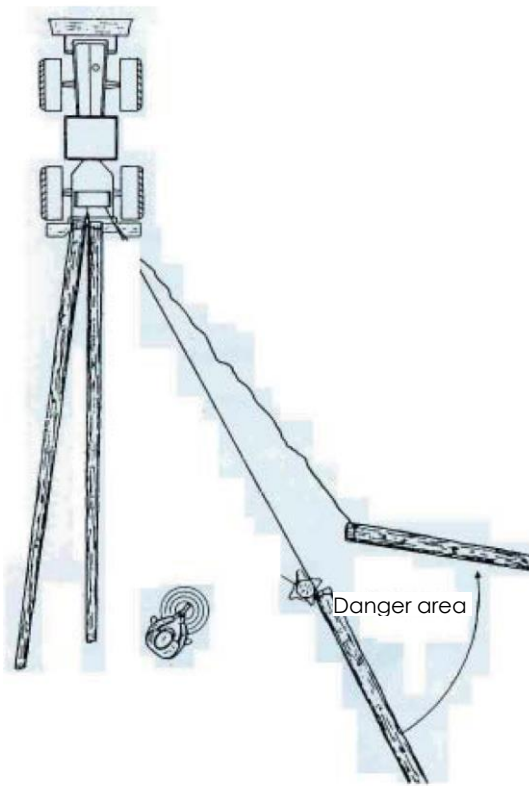

Figure 6
34. The winch can be operated only from a safe place from which the load, wire rope, rope hook or the winch itself do not pose a threat to the operator. A safe place can also be the tractor seat if the winch has a safety net of sufficient size. When operating the winch outside the tractor seat the operator must be provided with an appropriate protection, e.g. the tractor itself, secure location at a sufficient distance from the vehicle, e.g. behind a tree. Logs can be monitored from the side next to the connection and shorter timber can be monitored diagonally behind the load. (See Figure 6).